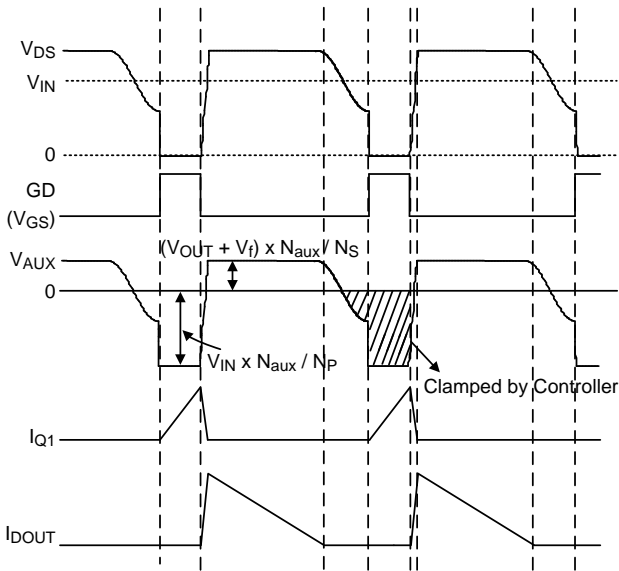

Figure 3. Key Waveforms of a Flyback Converter
RT7304A needs no shunt regulator and opto-coupler at the secondary side to achieve the output current regulation. Figure 3 shows several key waveforms of a conventional flyback converter in Quasi-Resonant (QR) mode, in which V_{AUX} is the voltage on the auxiliary winding of the transformer.